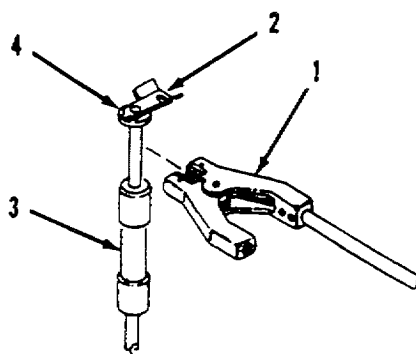

Figure 2-17. Ground Rod Removal.
- a. Ground Rod Removal. Refer to figure 2-17.
- (1) Disconnect ground clamp (1) (from CCR nozzle) from ground rod (2).